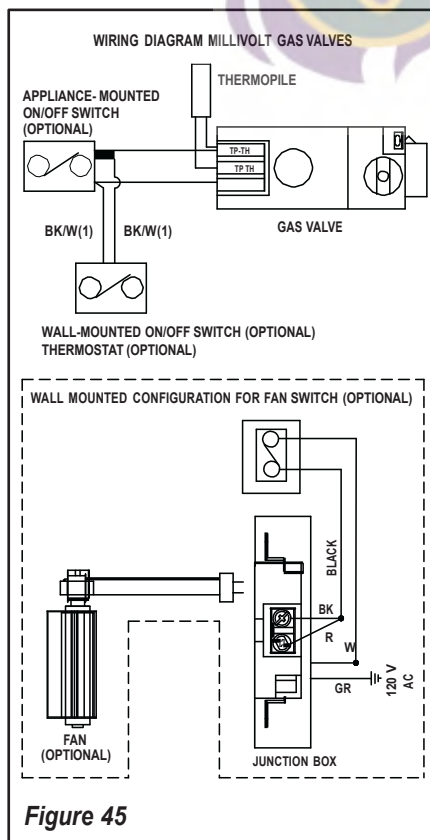

Figure 45
A. Millivolt Wiring (See Figure 45)
a. **Standard OFF/ON Switch** - Install the OFF/ON burner control switch (rocker switch) as shown in *Figures 45, 46 and 49*.
b. **Optional Control Switch** (OFF/ON wall switch, wall thermostat or remote control receiver). Install snap bushing (provided in Electrical Outlet Kit) into control switch knockout in side panel (see *Figures 13, 14 and 48*). Wire the optional control switch within the millivolt control circuit (as shown in *Figure 45*) using the 15 feet of 2 conductor wire supplied (route wires through the snap bushing to the optional control switch). Mount the optional control switch or wall thermostat in a convenient location on a wall near the fireplace.